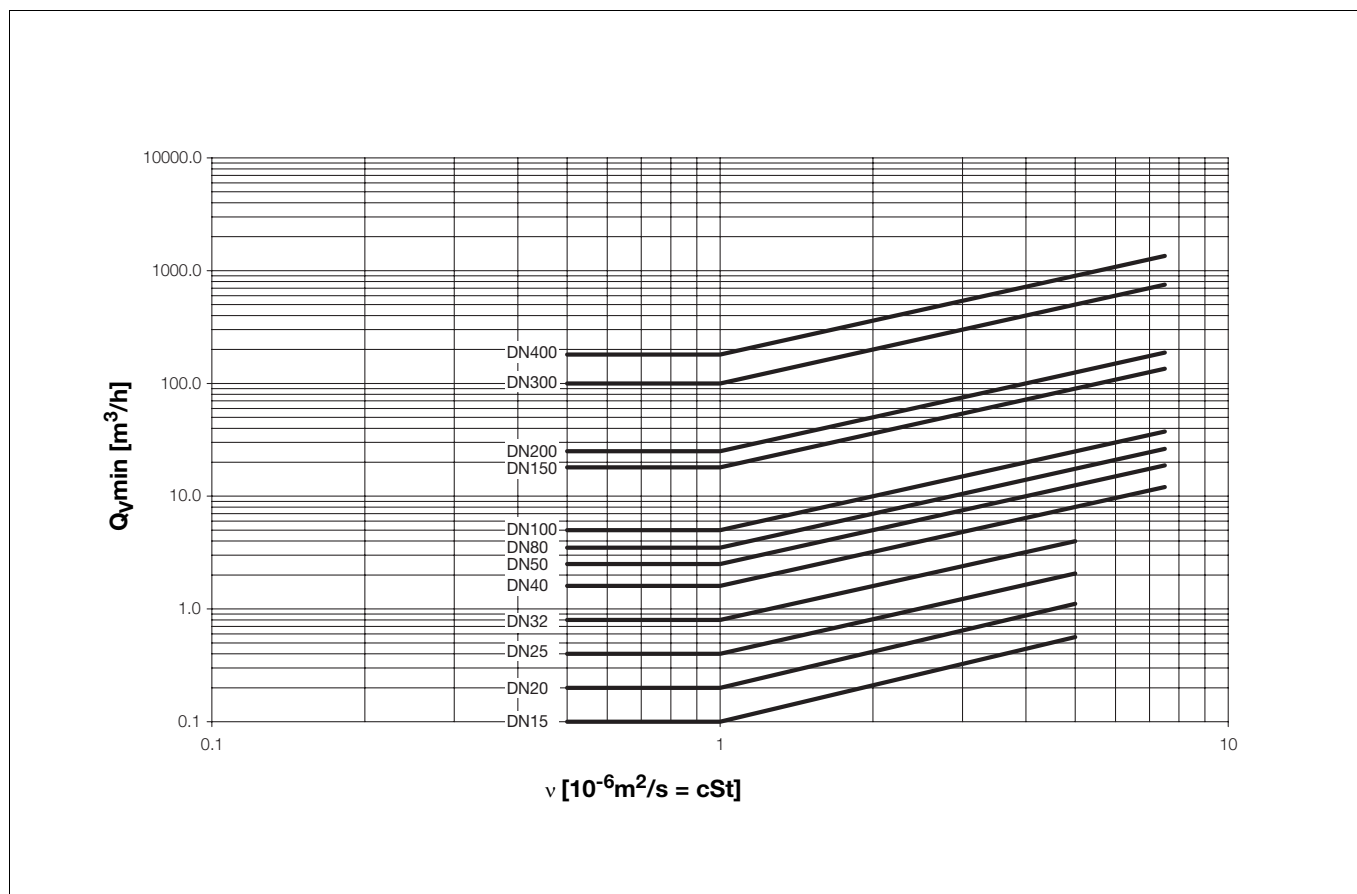

Fig. 18: Minimum Flowrates, for Liquids as a Function of the Kinematic Viscosity
2. Flow range start, linear, at 3 cSt, (from Fig.18): Q_v min = 10.5 m³/h